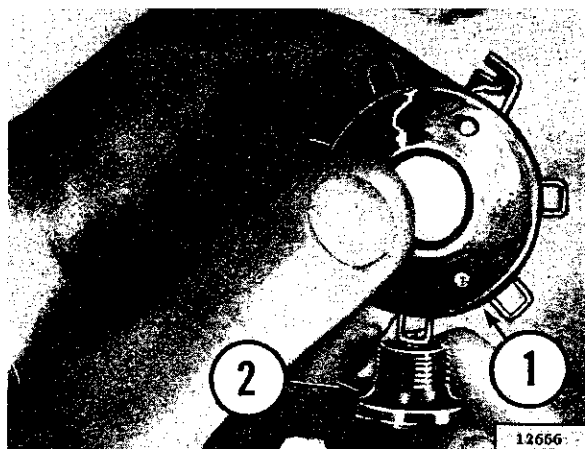

FIG. C-3—SETTING SPARK PLUG GAP
f. Measure the electrode gap of each new or existing plug with a wire gauge as shown in Fig. C-3. Adjust each electrode gap to the specific gap by bending the outer electrode mounted in the plug shell.